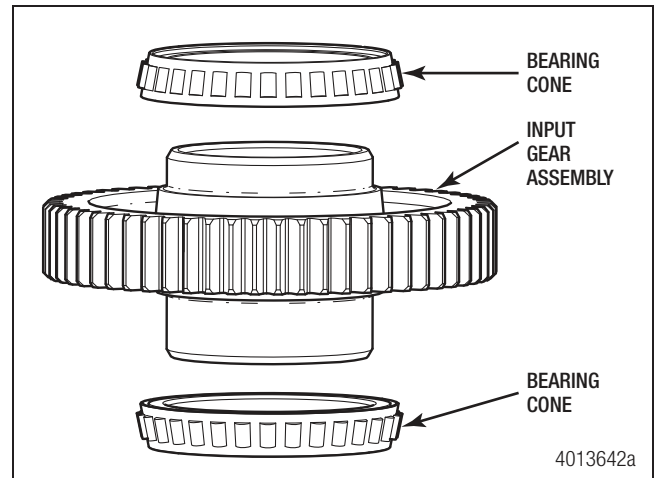

Figure 6.3
2. If necessary, use a bearing puller to remove the bearing cones from the drive gear. Figure 6.3.